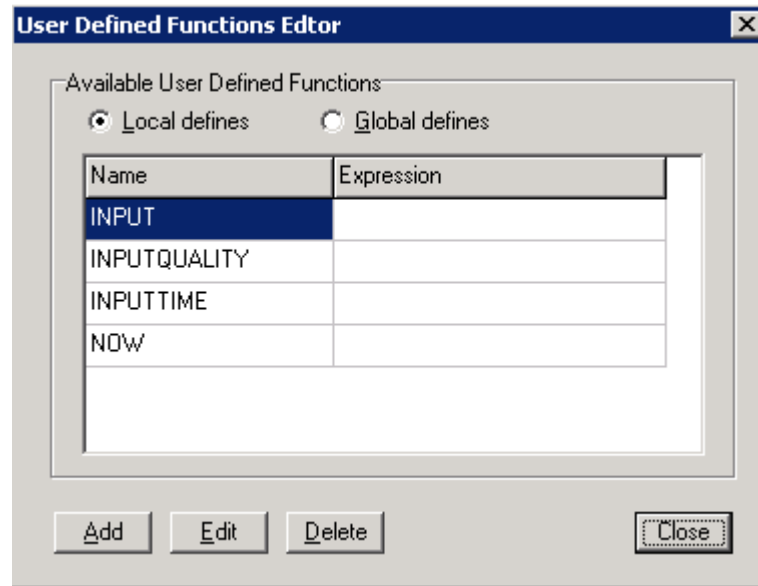

Figure 49 - User Defined Functions Editor
12. If required, from the **Select variable** window, click on the **Modify variables** button to access the **User Defined Functions Editor** (Figure 49) which allows you to add, change, or delete variables.